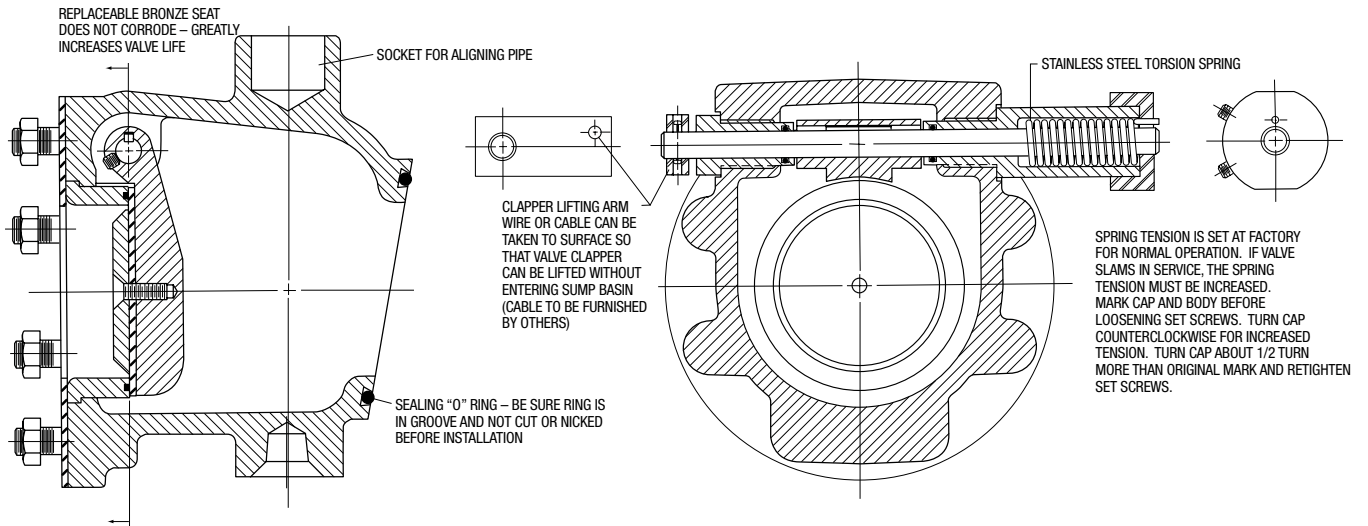
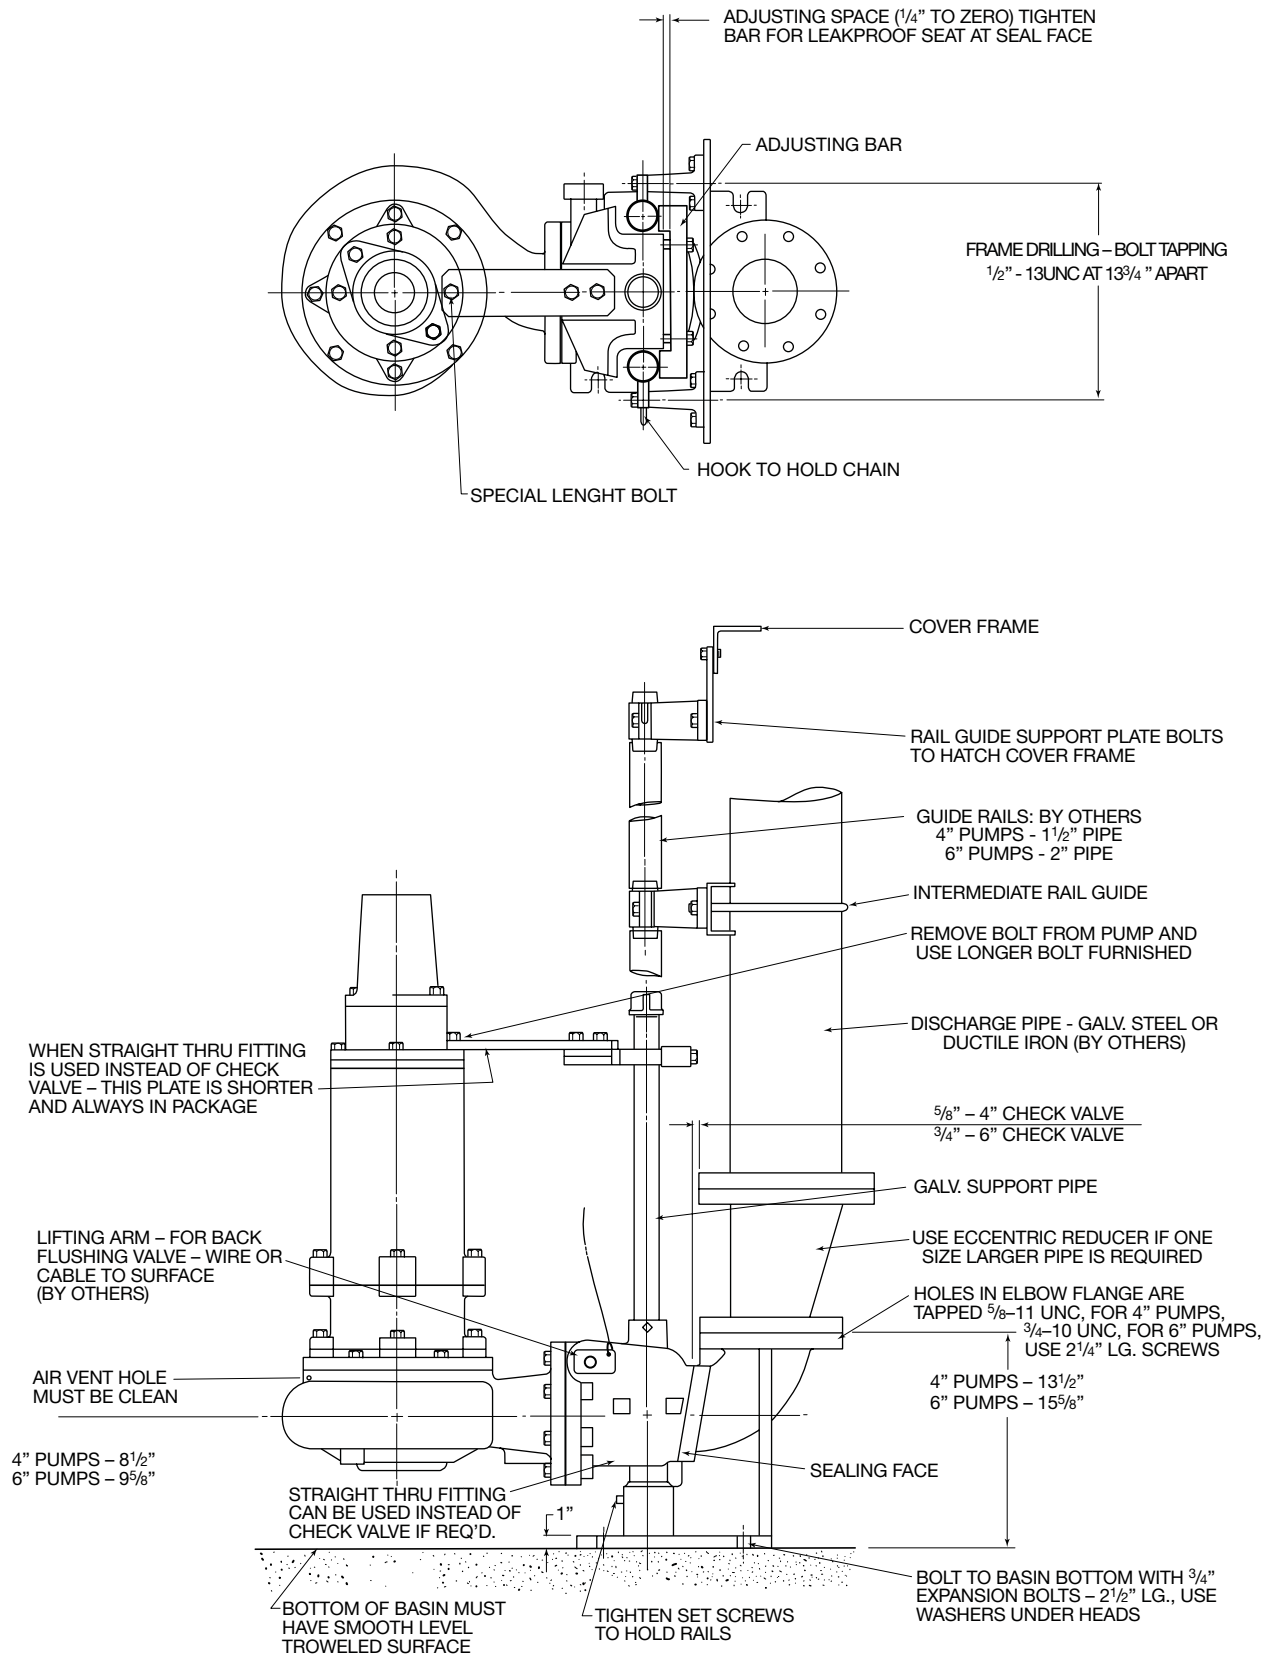

Fig. 1
Fig. 2
All pump models can be supplied with a spring loaded check valve for mounting directly onto pump discharge flange. No parts protrude on inside of valve and clapper to catch trash. Valve has replaceable bronze valve seat. See drawing, Fig. 1, for valve construction.
As check valve is installed directly on the pump discharge flange and is spring loaded, air tends to trap in the pump case when water rises in sump or when pump is lowered into water after service. To vent off this air, a small hole is drilled into the volute casting. **BE SURE THIS VENT HOLE IS CLEAN AFTER ANY SERVICE WORK ON PUMP.** Air venting is not a problem after initial start. See drawing, Fig. 2. Lifting arm on check valve will also vent off any air trapped. See check valve, Fig. 1.
The check valve has an outside arm fastened to valve clapper shaft. It is provided with a hole for attaching wire or cable that can be operated from the surface. This allows clapper to be lifted to flush off any trash that may get lodged on valve face. To flush valve, turn off pump switch and close outside shut-off valve. Then lift clapper and slowly open shut-off valve to allow back flow. It may be necessary to repeat this operation several times to clean face. After cleaning, open shut-off valve and turn pump to auto position. Valve arm can also be lifted to relieve air lock. See Fig. 1.
The check valve face or through flow fitting also acts as the sealing flange. An O-ring is used in the face for leak-tight seal. Be sure O-ring is properly in groove and not cut or nicked. All bolts and gaskets are supplied with valve. Use following steps to mount valve and aligning plate. See Fig. 2.
3. Install guide plate over pipe and connect plate arm to top of pump. Remove bolt in pump and replace with longer bolt furnished to hold plate arm in position. See Fig. 2.
7. Set adjusting bar so that there is a gap of about 1/4" between bar and guide plate. See Fig. 2.
5. When pump is set on elbow, check space between check valve face and discharge elbow face. This space must be about 1/32". If more than 1/32", tighten screw on adjusting bar to bring pump in closer to flange. Further adjustment may be necessary on start-up if flange leaks. See Fig. 2.
6. To adjust bar, loosen spacing set screws and tighten bolts, then reset the set screws. See Fig. 2.